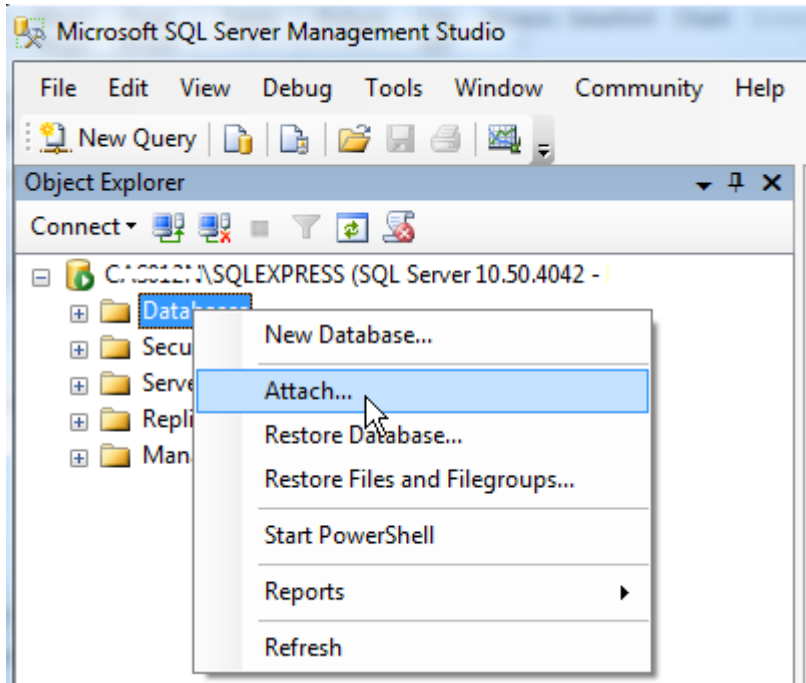

Figure 152 – SQL Server Database Attachment Dialog
- Right click the **Database** item to reveal the options shown in Figure 152 below